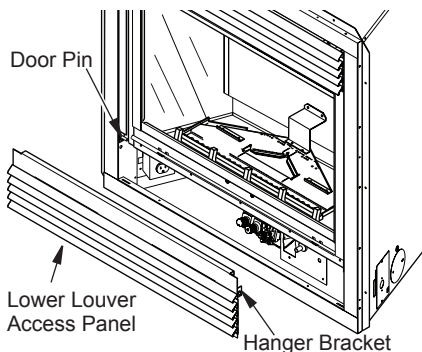

Figure 54 - Removing Lower Louver Access Panel
1. Grasp lower louver panel and pull up until hanger brackets release from door pins (see Figure 54, page 30).
1. Remove lower louver panel (see Removing Lower Louver Access Panel and Figure 54, page 30).